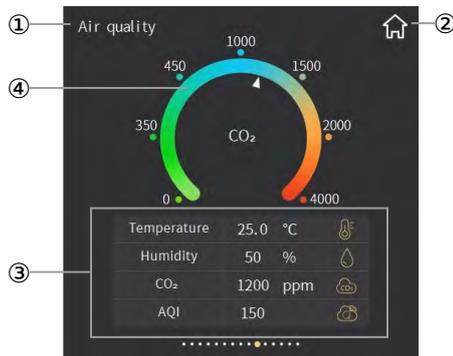

Fig.2.9.1
- ① This area displays the page description identification of Air Quality Display function page;
- ② Return to the home page by touching this icon;
- ③ This display area is the air quality parameter display list, can be configured through parameter; AQI, temperature, humidity, PM2.5, PM10, VOC, CO2, brightness and wind speed can displayed by parameter configuration, an interface can be configured with up to four displays.
- ④ This ring strip is used for displaying the air quality parameter value; Touch one of the items in the display list at the bottom of the interface, the pointer on the ring strip ④ will point to the corresponding scale, such as Fig.2.9.1 above is the display effect of CO2, Fig. 2.9.2 is the display effect of temperature, Fig. 2.9.3 is the display effect of AQI and Fig. 2.9.4 is the display effect of humidity.